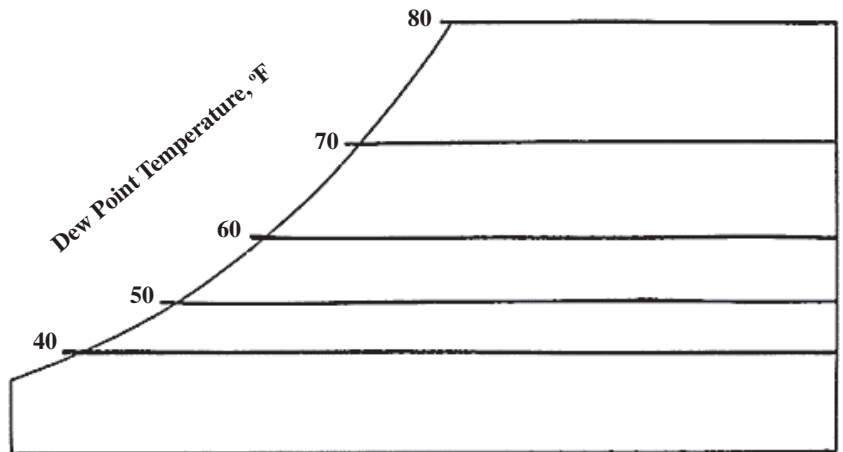

Figure 4. Dew point temperature lines.
3. **Dew point temperature** is the temperature below which moisture will condense out of air. Air that is holding as much water vapor as possible is saturated or at its dew point. Water will condense on a surface, such as a building wall or pitcher of ice water, that is at or below the dew point temperature of the air. The dew point temperature scale is located along the same curved portion of the chart as the wet bulb temperature scale. However, horizontal lines indicate equal dew point temperatures (*Figure 4*).